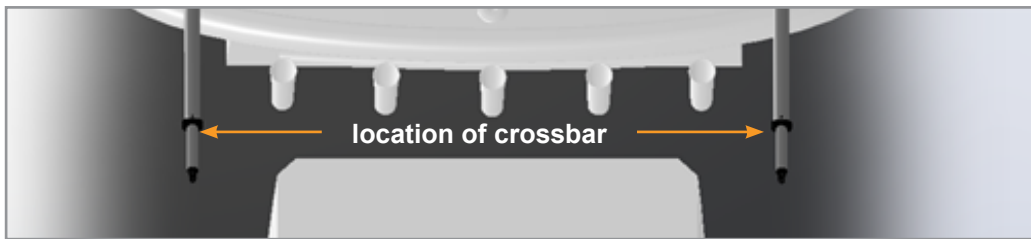

Fig.7
4. Confirm that the front end cap is past the aft most component of the hardtop. It is important that there is a direct path between the two front endcaps. In subsequent steps the crossbar will be installed in this location (**Fig. 7**).